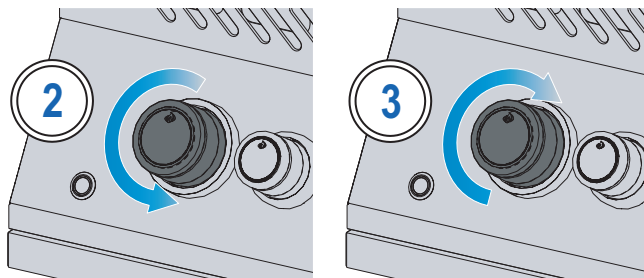

Fig. 1
4. If the pilot and burner will not light in 5 seconds – turn the control knob clockwise to the OFF position. Wait 5 minutes for gas to dissipate. Repeat steps 2 and 3, or light with a match. (Fig. 1).
5. If the burner will not light – turn burner control knob clockwise to the OFF position. Wait 5 minutes. Repeat step 3 and 4. (Fig. 1)